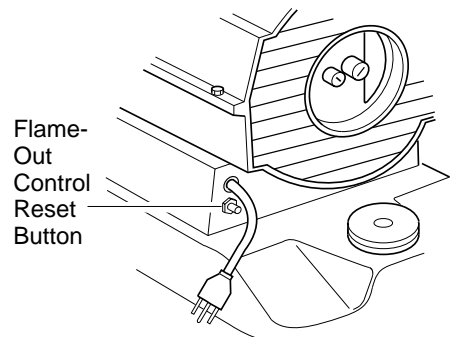

Figure 5 - Flame-Out Control Reset Button, 35/55,000 BTU/Hr Models
5. Plug extension cord into standard 120 volt/60 hertz, three-hole, grounded outlet. Heater will start when extension cord is plugged into outlet. If not, push in flame-out control reset button (see Figures 5 and 6).